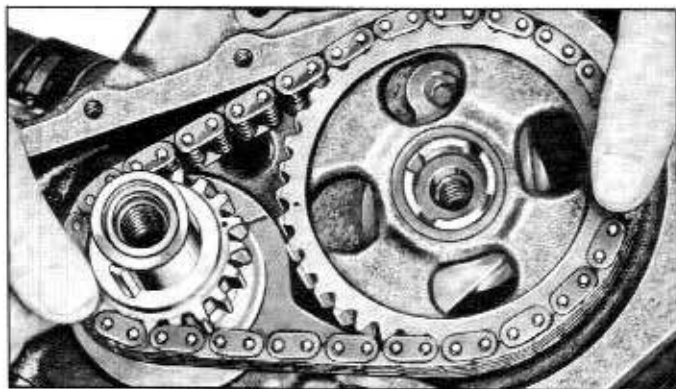

Fig. 6A-25—Timing Chain and Sprockets Removal—(60C-5624)
25. Crank the engine until the timing marks are aligned as shown in figure 6A-24. Remove the camshaft sprocket retaining bolt and washer. Slide both sprockets and timing chain forward and remove them as an assembly. See figure 6A-25.